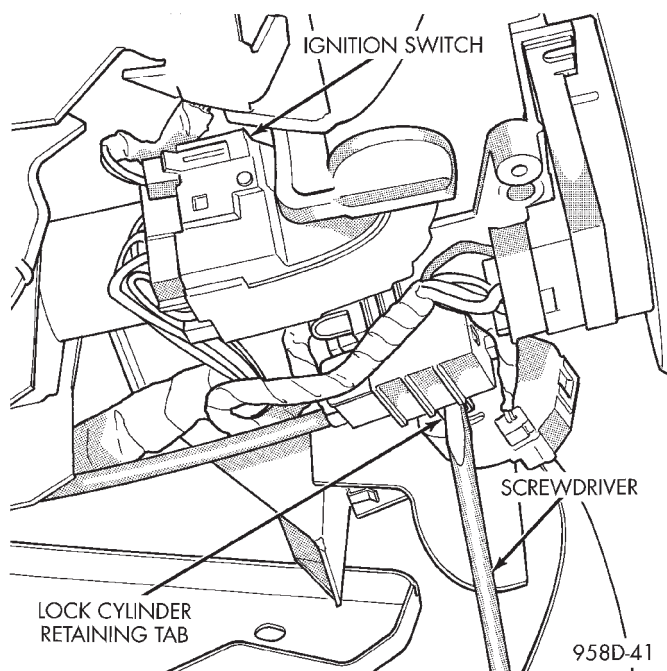

Fig. 69 Lock Cylinder Removal
(12) Place key cylinder in RUN position. Depress lock cylinder retaining tab and remove key cylinder (Fig. 69).